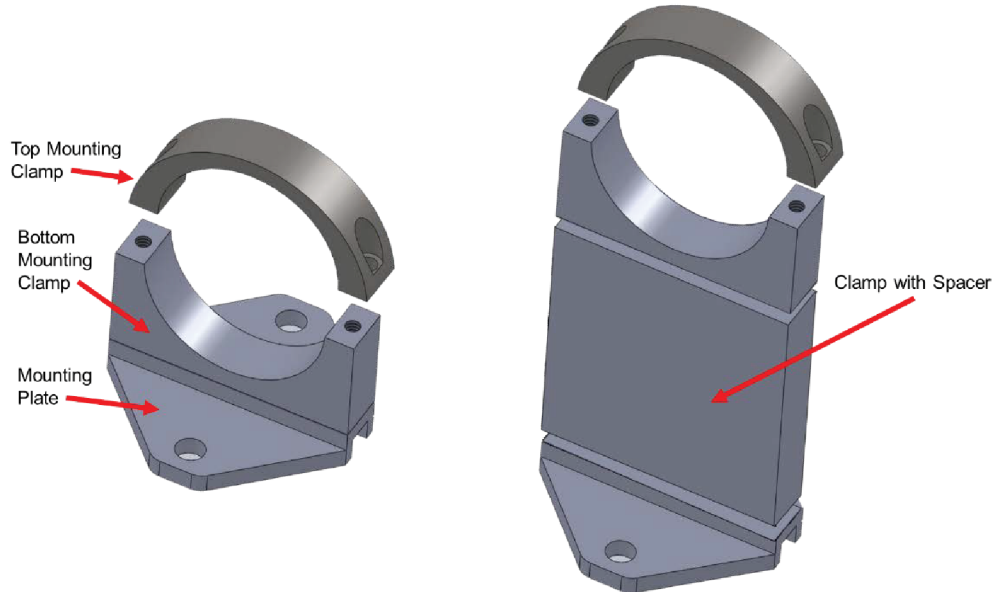
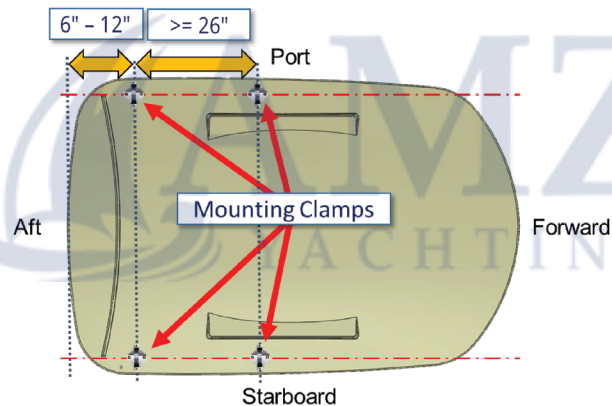

Fig.6
Fig.7
1. Disassemble the four mounting clamps, which may include spacers (**Fig.6**) depending on installation, by removing the two 1/4" - 20 x 3/4" socket head screws from each clamp.
- A. Remove the top clamp (**Fig.6**).
- C. Place mounting clamps 6" - 12" from aft of hardtop (**Fig.7**). Spacing between forward and aft mounting clamps should be no less than 26" (**Fig.7**).
2. Position the four bottom mounting clamps (**Fig.6**) along the predetermined lines on the hardtop (**Fig.7**).